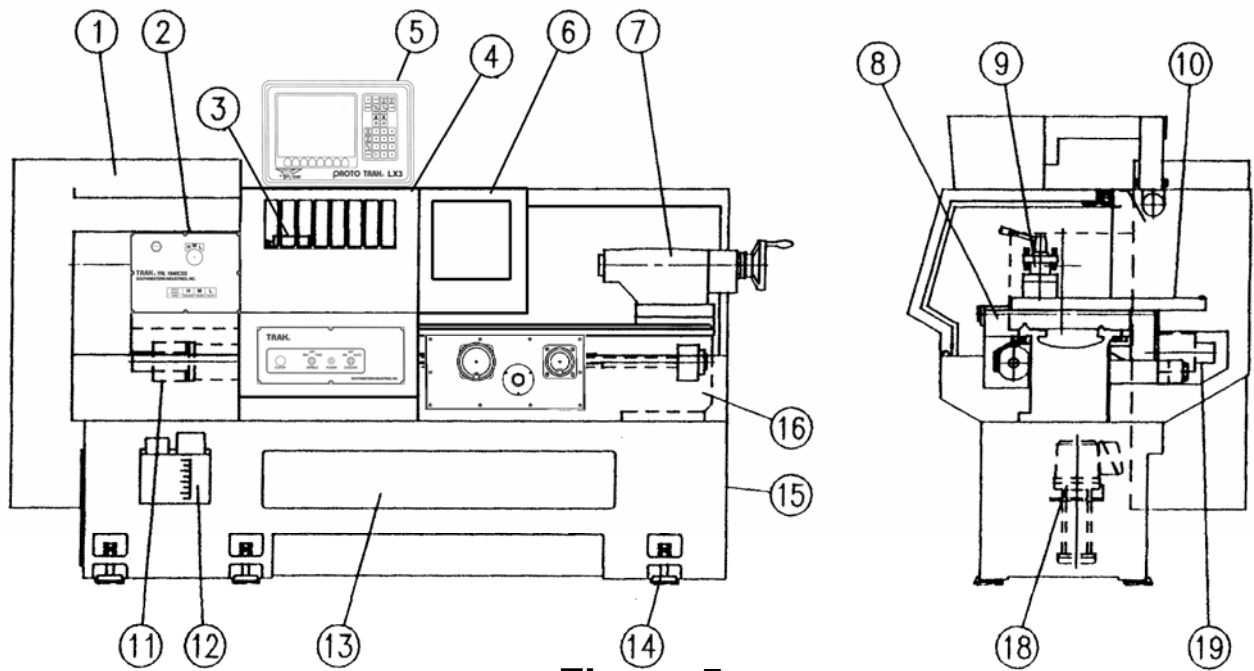

Figure 5
3.7 The TRL 1840 CSS Lathe (Figure 5)
The coolant piping system is mounted to the rear of the saddle with two screws. A 1/2 inch diameter hose connects the piping to the pump and reservoir located in the right pedestal base (see Figure 5). Access is through the right side through a back access panel. The reservoir holds 13 gallons of coolant and may be filled through the access, or by pouring the coolant into the chip pan.